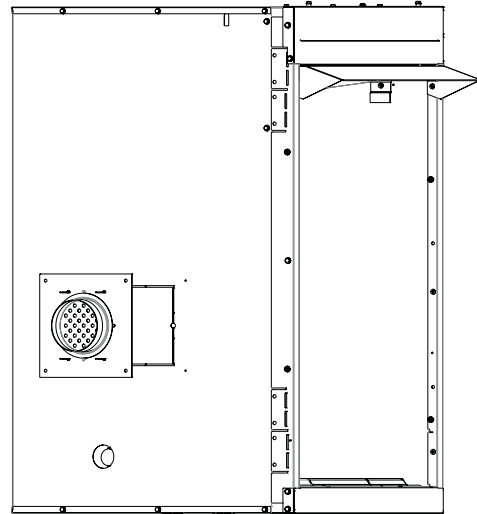
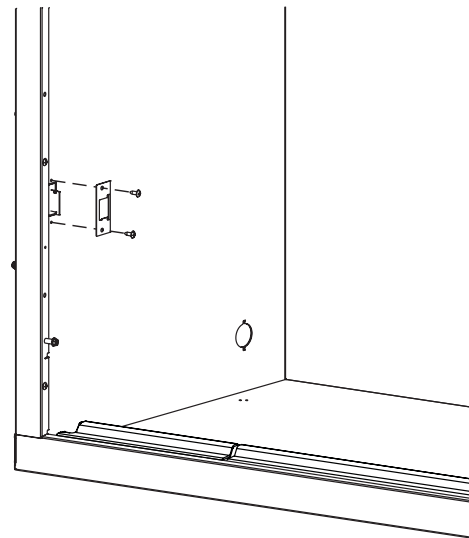

Figure 15
Figure 16
3. Insert Slide Assembly through the cut-out as shown in **Figure 15.** Before you fasten ensure that the handle penetrates the inner firebox wall. **See Figure 16.** Fasten the Slide Assembly with the four 10 x 1/2 Hex Head Screws provided.
4. Fasten the Handle Retainer to the firebox side with two 10 x 1/2 Phillips Truss Head Screws as shown in **Figure 16.**